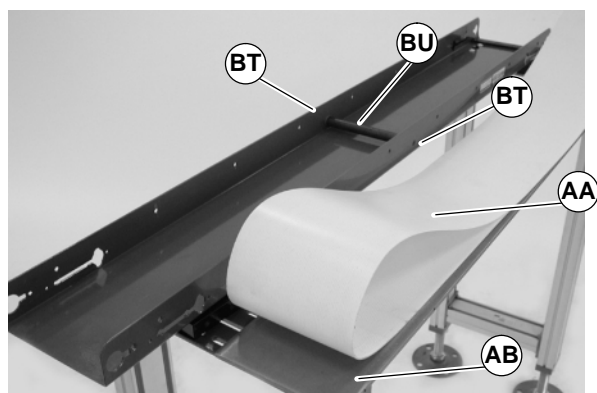

Figure 57
2. Remove screws (BT of Figure 57) on both sides of conveyor.
1. Align holes in ends of return belt roller (BU) with countersink holes (Figure 57).
2. Install screws (BT). Ensure screws are centered in countersink hole.